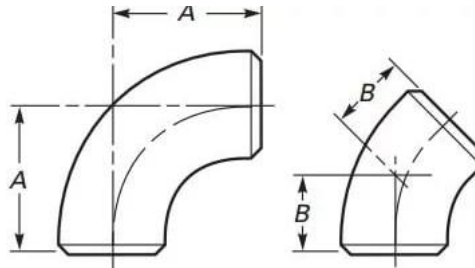

Figure 4.2. GI Elbow Joint
1. Preparation of galvanized steel I joint as shown in the Figure 4.2.